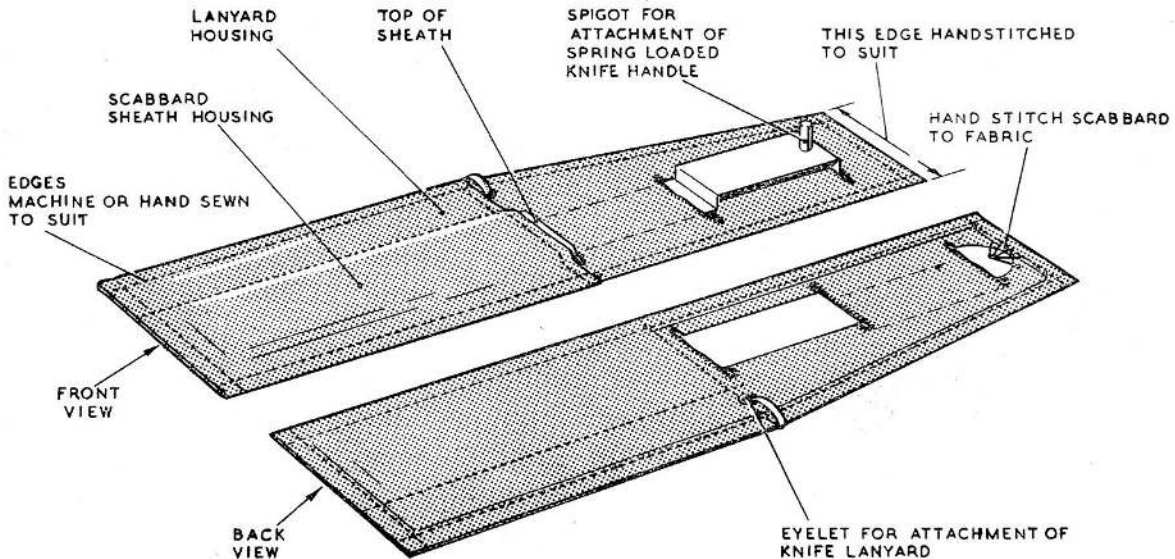

Fig. 17. Attachment of scabbard to retainer
(1) Refer to fig. 17. Pass the scabbard through the slots in the retainer so that the sheath lies on the under side, i.e. the side on to which the edges of the retainer are sewn.
(2) Secure the top of the scabbard to the retainer with hand stitches passing through the fabric and the hole in the scabbard. Not less than six stitches of double thread (Ref No. 22A/577) are to be used. Ensure that the top of the sheath is not fouled by the fabric.